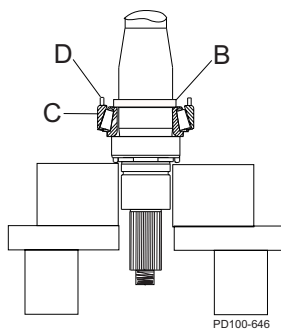

Figure 203 - Install Inner & Outer Spacer and Lower Cup
4. Place the inner spacer (Figure 203, item B) over the shaft onto the lower cone and roller assembly.